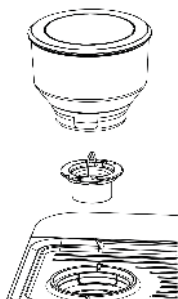
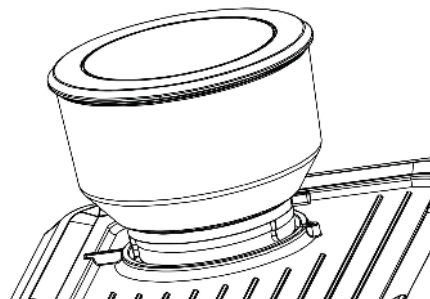

Fig. 1:
Fig. 2:
1. Before activating the grinding function, ensure that all required parts are correctly installed, referring to Fig. 1 and Fig. 2.
Install the Cutter Head and tighten it clockwise. Then, install the Bean Box and secure it as shown in Fig. 2.